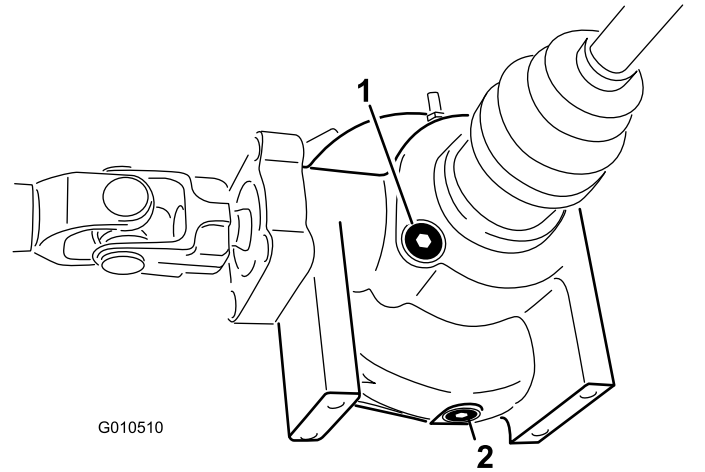

Figure 44
4. Clean the area around the fill/check plug on side of the differential (Figure 44).
4. Clean the area around the drain plug on the side of the differential (Figure 44).